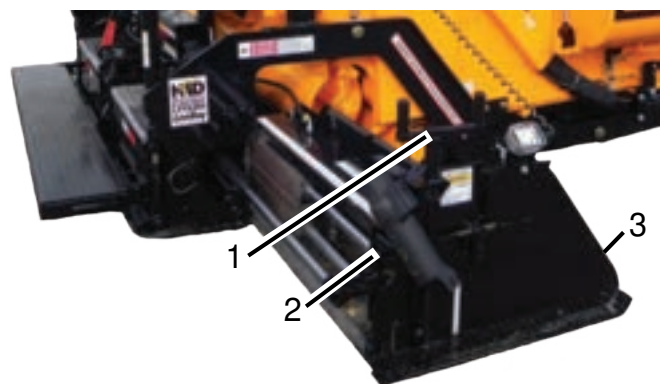

Figure 4-46. Screed, Flight Screw and Endgate (HD815 Screed Shown)
The main screed and screed extensions are heated by heating elements and equipped with replaceable, heavy-duty wear plates. Use the screed extensions when paving widths exceeding eight (8) feet. **(Figure 4-46)** The screed extensions should be heated before making any adjustments using the wrench provided.
5. On the first pass, turn the endgate depth screw to lower the endgate until it is about 1/4-inch (6.35 mm) below the screed. **(Figure 4-46)**